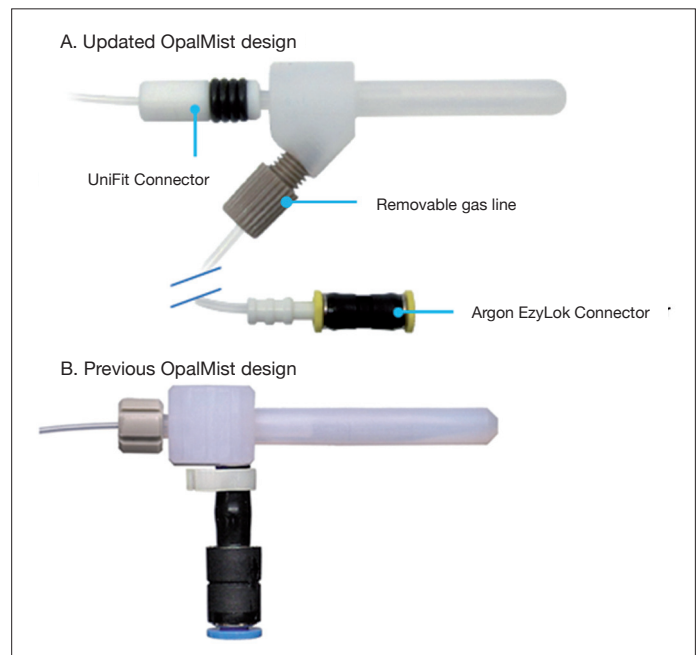

Figure 4: Updated nebulizer design for Glass Expansion HF resistant concentric nebulizers.
In 2011 the OpalMist and PolyCon nebulizers were re-designed. With the previous design, the sample tubing was connected using a screw-on cap and o’ring seal while the EzyLok argon connector was permanently connected to the side-arm. The new design is more user-friendly and accommodates the same UniFit sample tube connector as our U-Series glass concentric nebulizers. The EzyLok argon connector is attached by a screw-in fitting that is easily removable. The updated OpalMist and PolyCon nebulizers deliver the same outstanding performance as the previous design since the internal construction is unchanged. The updated OpalMist (A) is compared to the previous design (B) in Figure 4. The updated PolyCon has the same design.